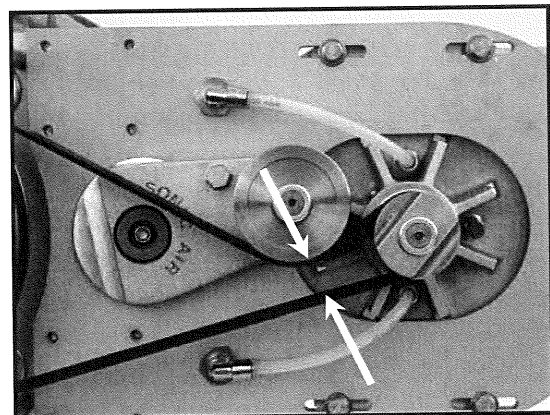

Figure 11 - Verify Belt Gap
4. Verify that the belt gap is approximately ¾ inch ±1/16 inch (Factory Set). (See Figure 11)